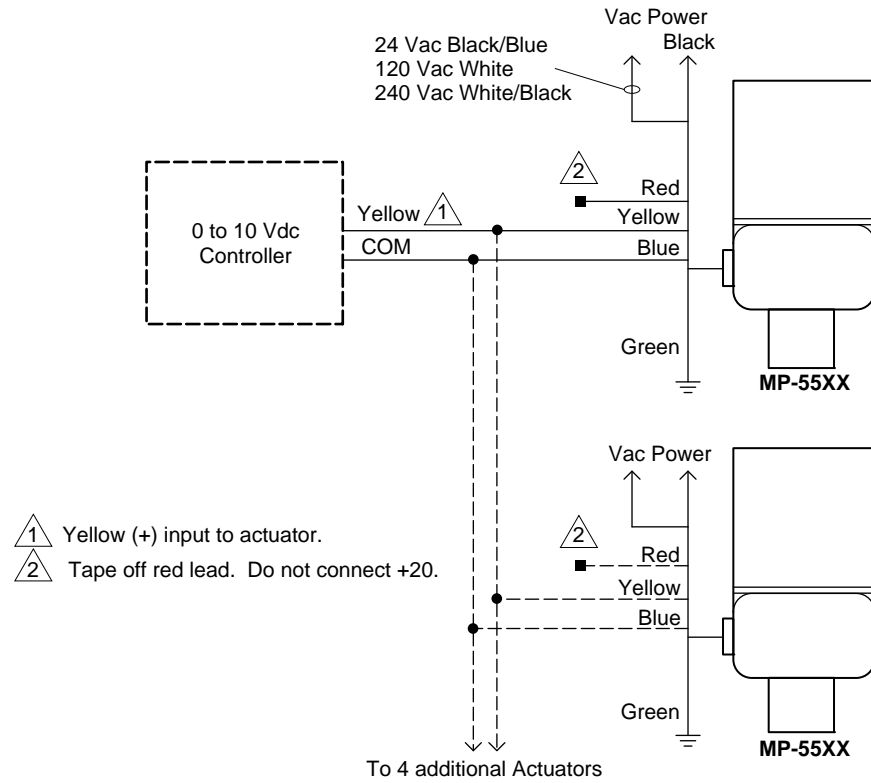

Figure-1 Typical Control Wiring for Up to Six MP-5500 Series Actuators to Controllers that Do Not Require 20 Vdc Power from the Actuator.
3. Make the required connections. Refer to Figure-1 for a wiring diagram of your particular application.